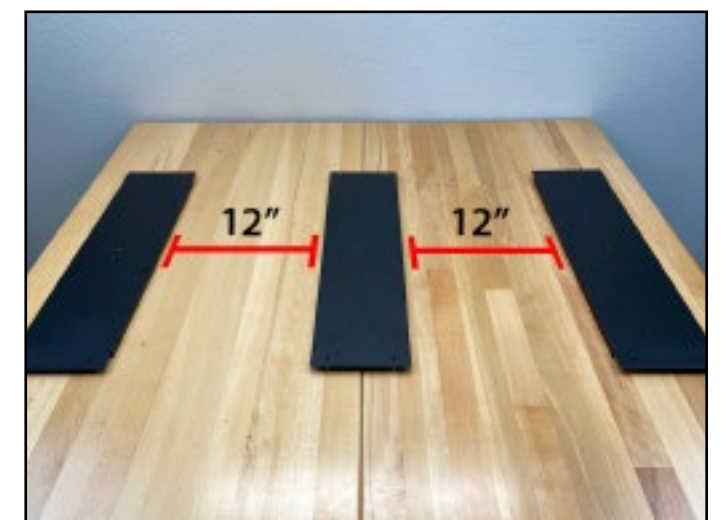

Figure 2-4
1. Lay the three (3) cross straps parallel, front-to-back, with the flanges down, and 12 inches apart. See **Figure 2-4**.